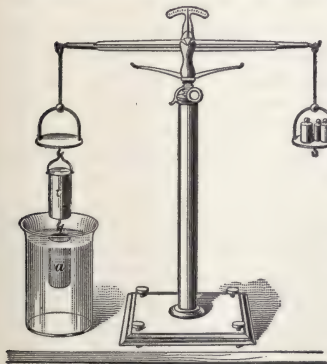

FIG. 12.
**27.** This principle may be experimentally demonstrated with the beam scales, as shown in Fig. 12. From one scale pan suspend a hollow cylinder of metal *t*, and below that a solid cylinder *a* of the same size as the hollow part of the upper cylinder. Put weights in the other scale pan until they exactly balance the two